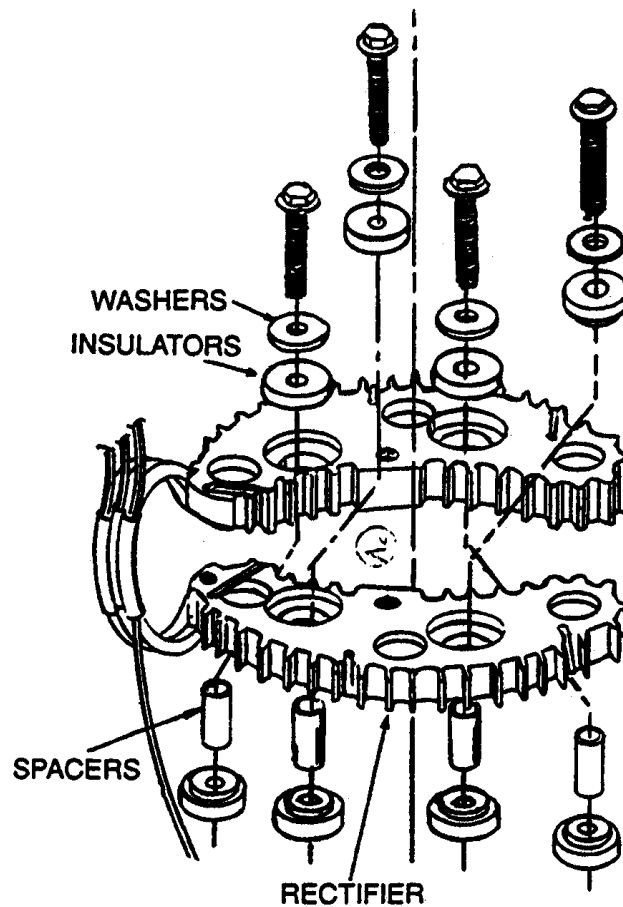

FIGURE 24
3. Install washer (31) over negative output stud. Apply Loctite #242 to stud threads. Install terminal nut (18) on stud (23). Torque to 35-40 in.-lbs.
4. Install a rectifier connecting strap (25) on the positive output terminal (22). Install insulator (20) on the terminal and install in the housing (30) with the connecting strap routed as shown. Verify that the positive strap does not contact the housing.
5. Install red insulator (21). Apply Loctite # 242 to stud threads. Install terminal nut (18) on the positive output stud (22). Torque to 35-40 in.-lbs.
6. Install insulation sleeves (24) on rectifier connecting straps (25).
7. Install internal insulators (28) onto AUX terminal stud. Install the AUX terminal stud through AUX terminal outlet hole in the back of slip-ring housing (30). Install external insulator (32). Install and tighten AUX terminal nut (35). Torque to 15-20 in.-lbs.
8. The stator-rectifier assembly (11) and AUX terminal must be installed as one unit. On the rectifier, install four rubber insulators (14) into the recessed portions on the back side, in such a manner that they do not dislocate themselves during installation. During installation, orient the stator-rectifier(11) so as to allow installation of the AUX terminal, alignment of the rectifier mounting screws (12) and proper location of the alternator assembly thru bolts (34). (See Figures 24 & 25.)